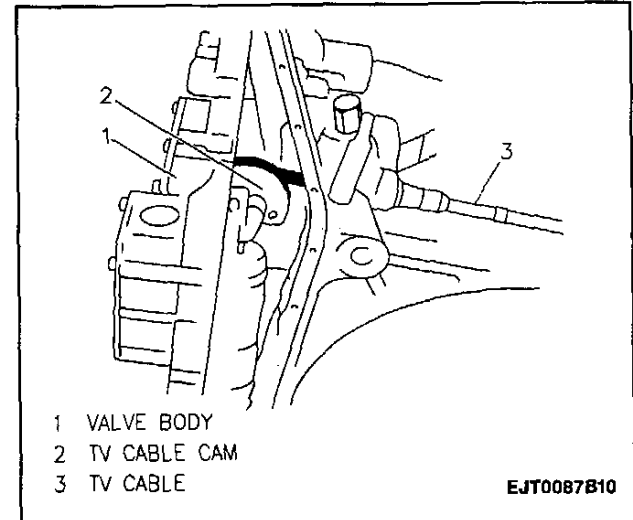

Figure 70—TV Cable Cam (03-72LE, 4-Speed)
- Lift valve body slowly and disconnect TV cable from TV cable cam and remove valve body from transmission case (Figure 70).